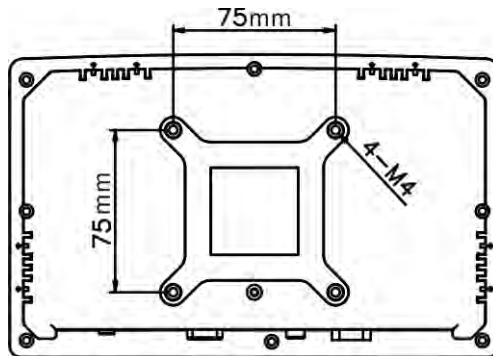

Figure 4-15: Arm Mounting Retention Screw Holes
Step 3: Align the retention screw holes on the mounting arm interface with those on the IOVU-751R, as shown in **Figure 4-15**.